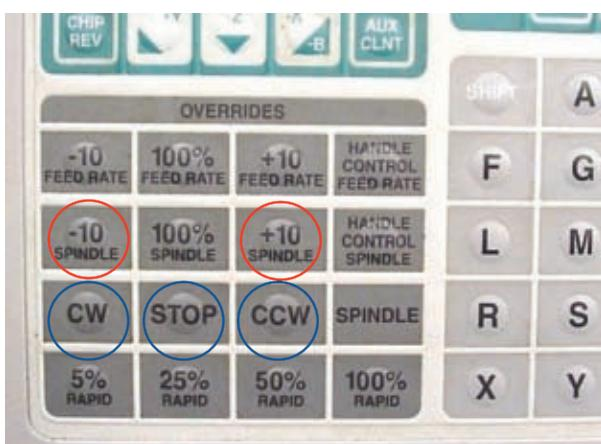

Figure 9-8 The buttons for increasing and decreasing SPINDLE speed are circled in red. The buttons for stop, CW, and CCW are circled in blue.
15. Several additional buttons are helpful as you write your program. (see Fig.9-8)